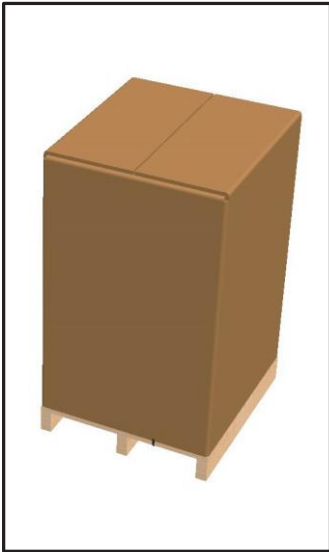

Fig. 11: Removing carton
- With 2 people, lift both front wheels by levering with the handle so unit is setting on the rear wheels (Fig. 11).